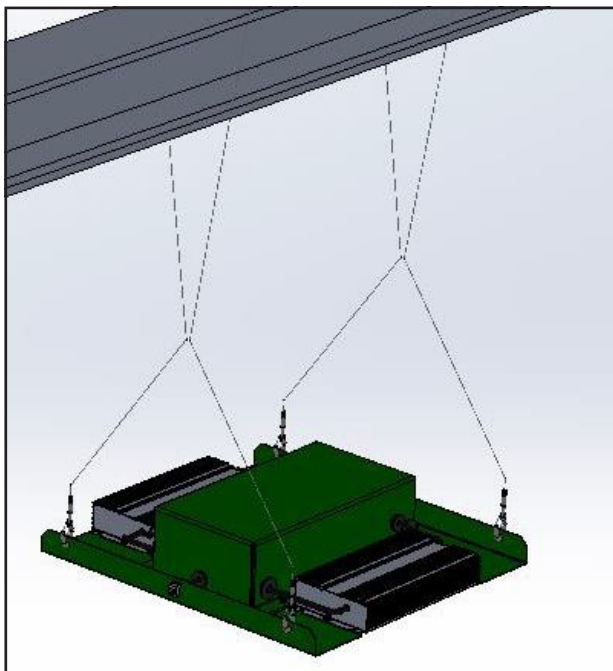

FIG. 5
- Before proceeding with the electrical installation, adjust the driver box until it's leveled in both direction (FIG. 5).